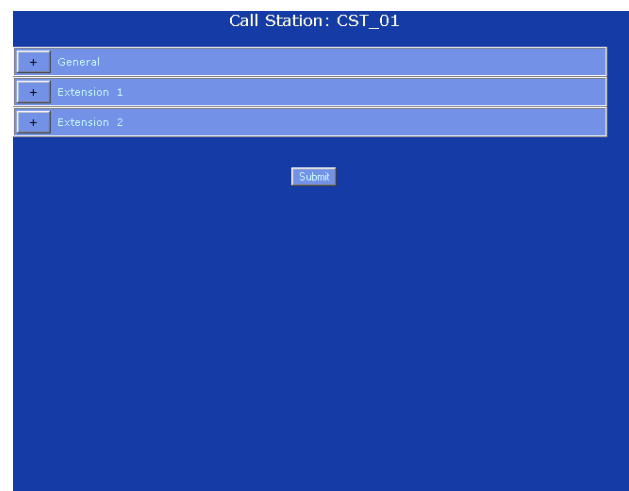

figure 38.58: Local BGM volume control, step 2
- Click the name of the call station to which the keypad of which the key that must be configured has been connected. A screen similar to the one in figure 38.58 appears in the main frame of the web interface.